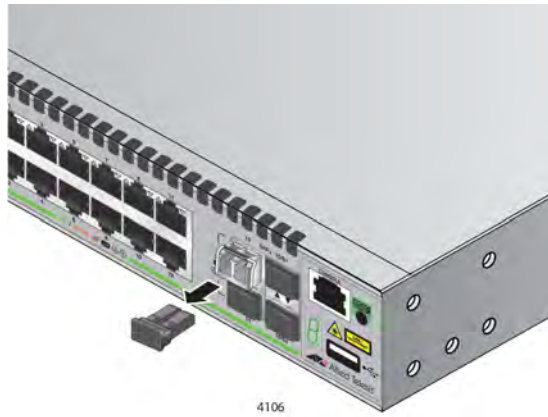

Figure 23. Removing the Dust Cover from an SFP Transceiver
5. Remove the dust cover from the transceiver, as shown in Figure 23.